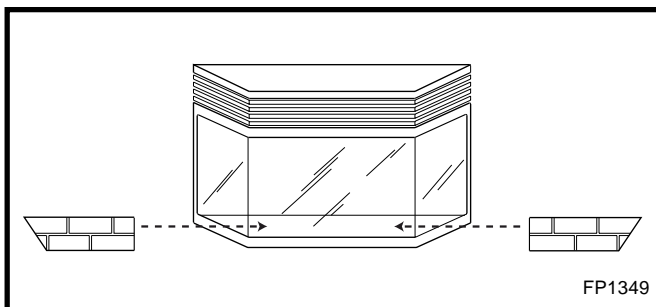

Fig. 35 Bay window ceramic refractory.
8. Insert refractory pieces into the Bay Window as shown in Figure 35.